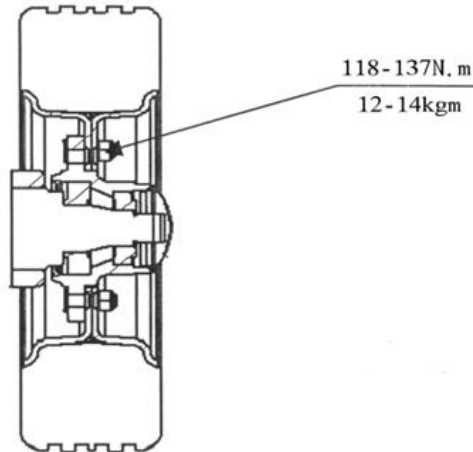

Figure 3-3 Assembling of steer wheel
- (1) See figure 3-3, first pre-tighten the 5 hub nuts;
- (2) Tighten the hub nuts with regulated torque in a diagonal way.